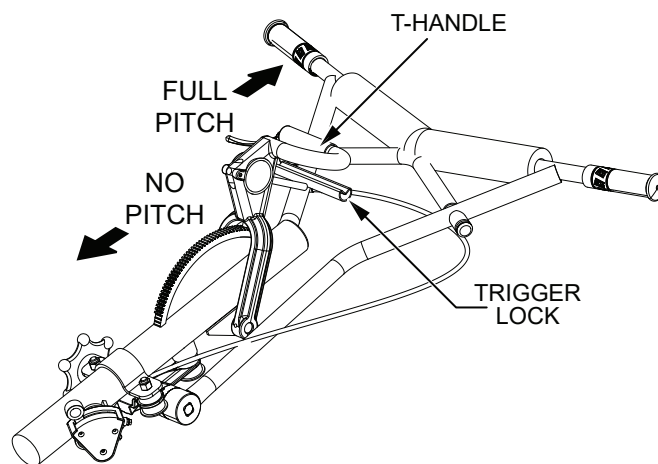

Figure 13. Blade Pitch Cable Adjustment (Quick Pitch™ Handle)
2. For trowels equipped with a **Quick Pitch™** handle (QXHD), squeeze the trigger lock and push the T-handle toward the engine to release tension on the blade pitch cable. See Figure 13.